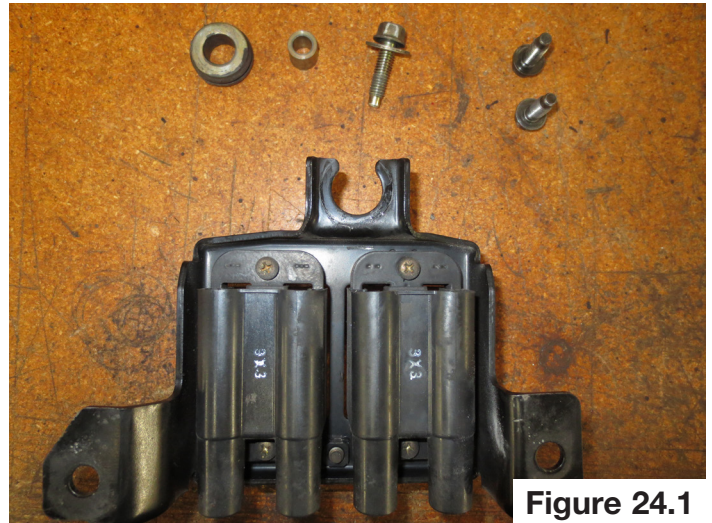
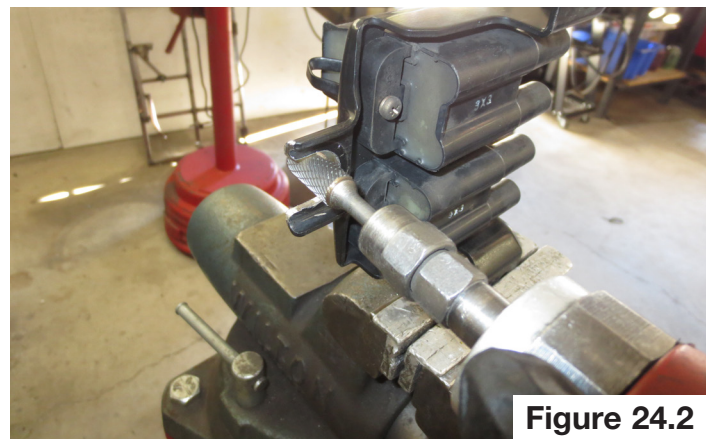
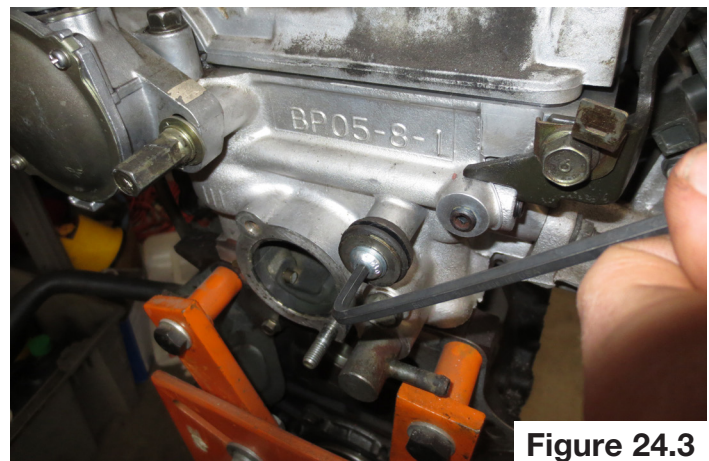

Figure 24.1
Figure 24.2
Figure 24.3
- 24) Reinstall coil bracket to rear of engine. The lower bolt must be replaced with the provided button head bolt for EGR tube clearance. Install with a 5 mm allen wrench. **910-855 does not include this button head bolt. (Optional)** The coil bracket can be modified to greatly ease future removal and installation if desired. Remove the coil bracket from the vehicle. Lubricate the rubber bushing with silicone spray. Remove the metal sleeve and carefully pry out the rubber bushing with a flathead screwdriver. **Figure 24.1.** The rubber is old and easily damaged. Grind out the fork as shown so that it will easily slide down onto the rubber bushing, **Figure 24.2.** Insert the metal sleeve back into the rubber bushing and install on the back of the engine using the provided button head bolt. **Figure 24.3.**